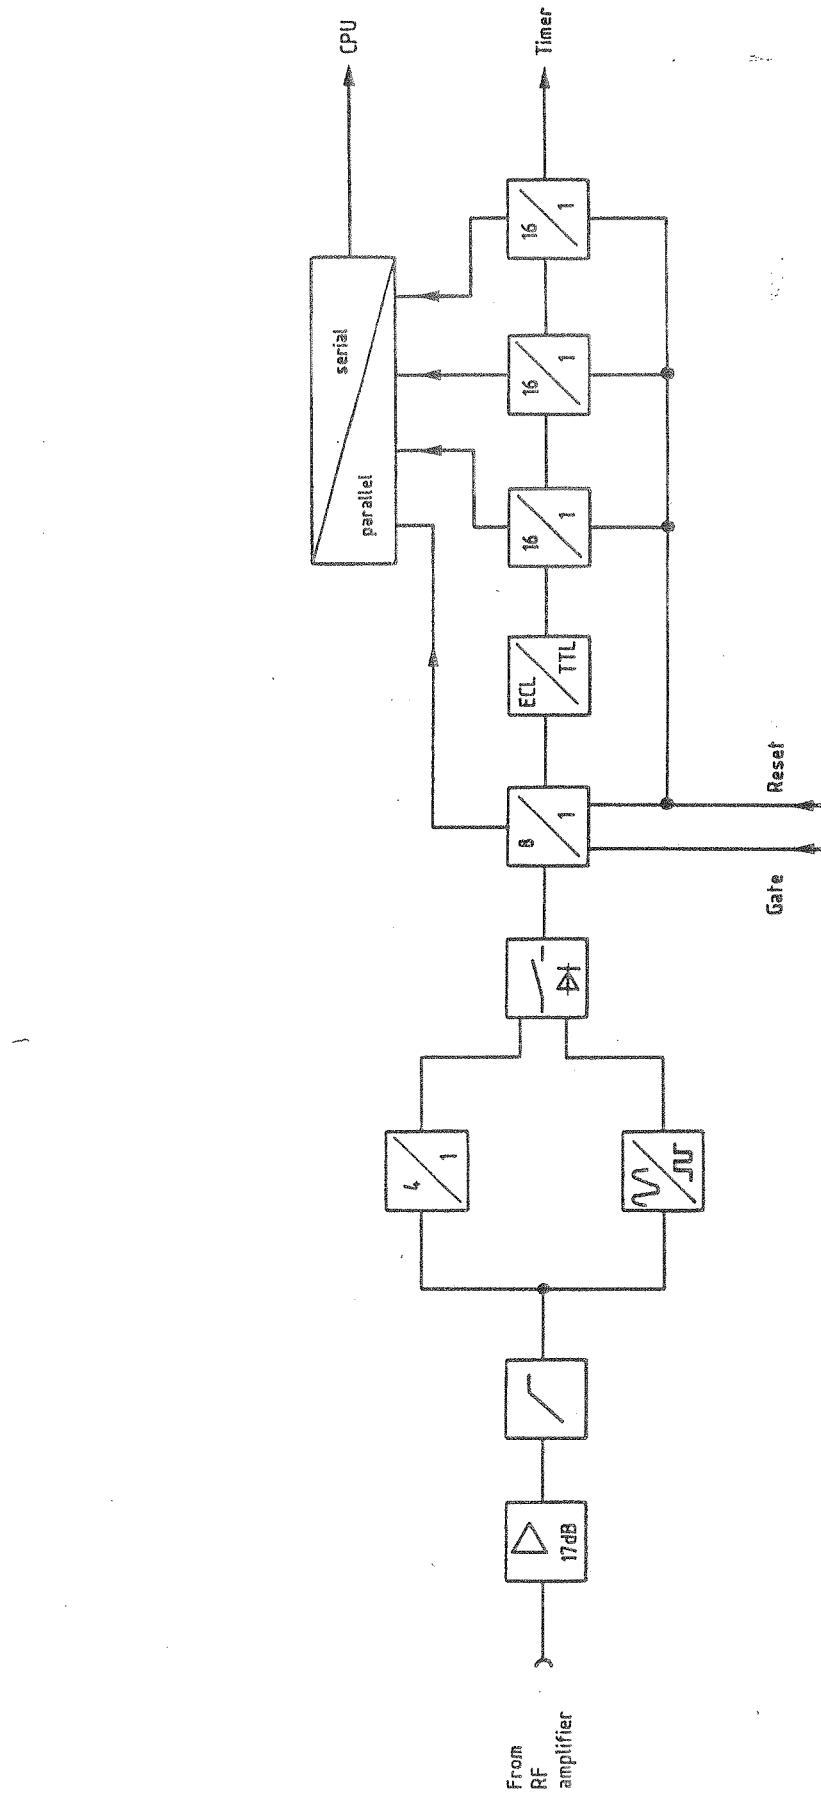

Fig. 5-4 Block diagram of the RF counter
5.1.13 RF Counter (See Fig. 5-4)